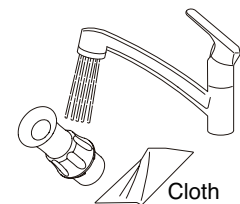

Fig.5-3 Surface cleaning
- A. Wipe off the surface contamination by a cloth while rinsing the surface by running clean warm water at 40 ± 5 degrees. (**Fig.5-3**)